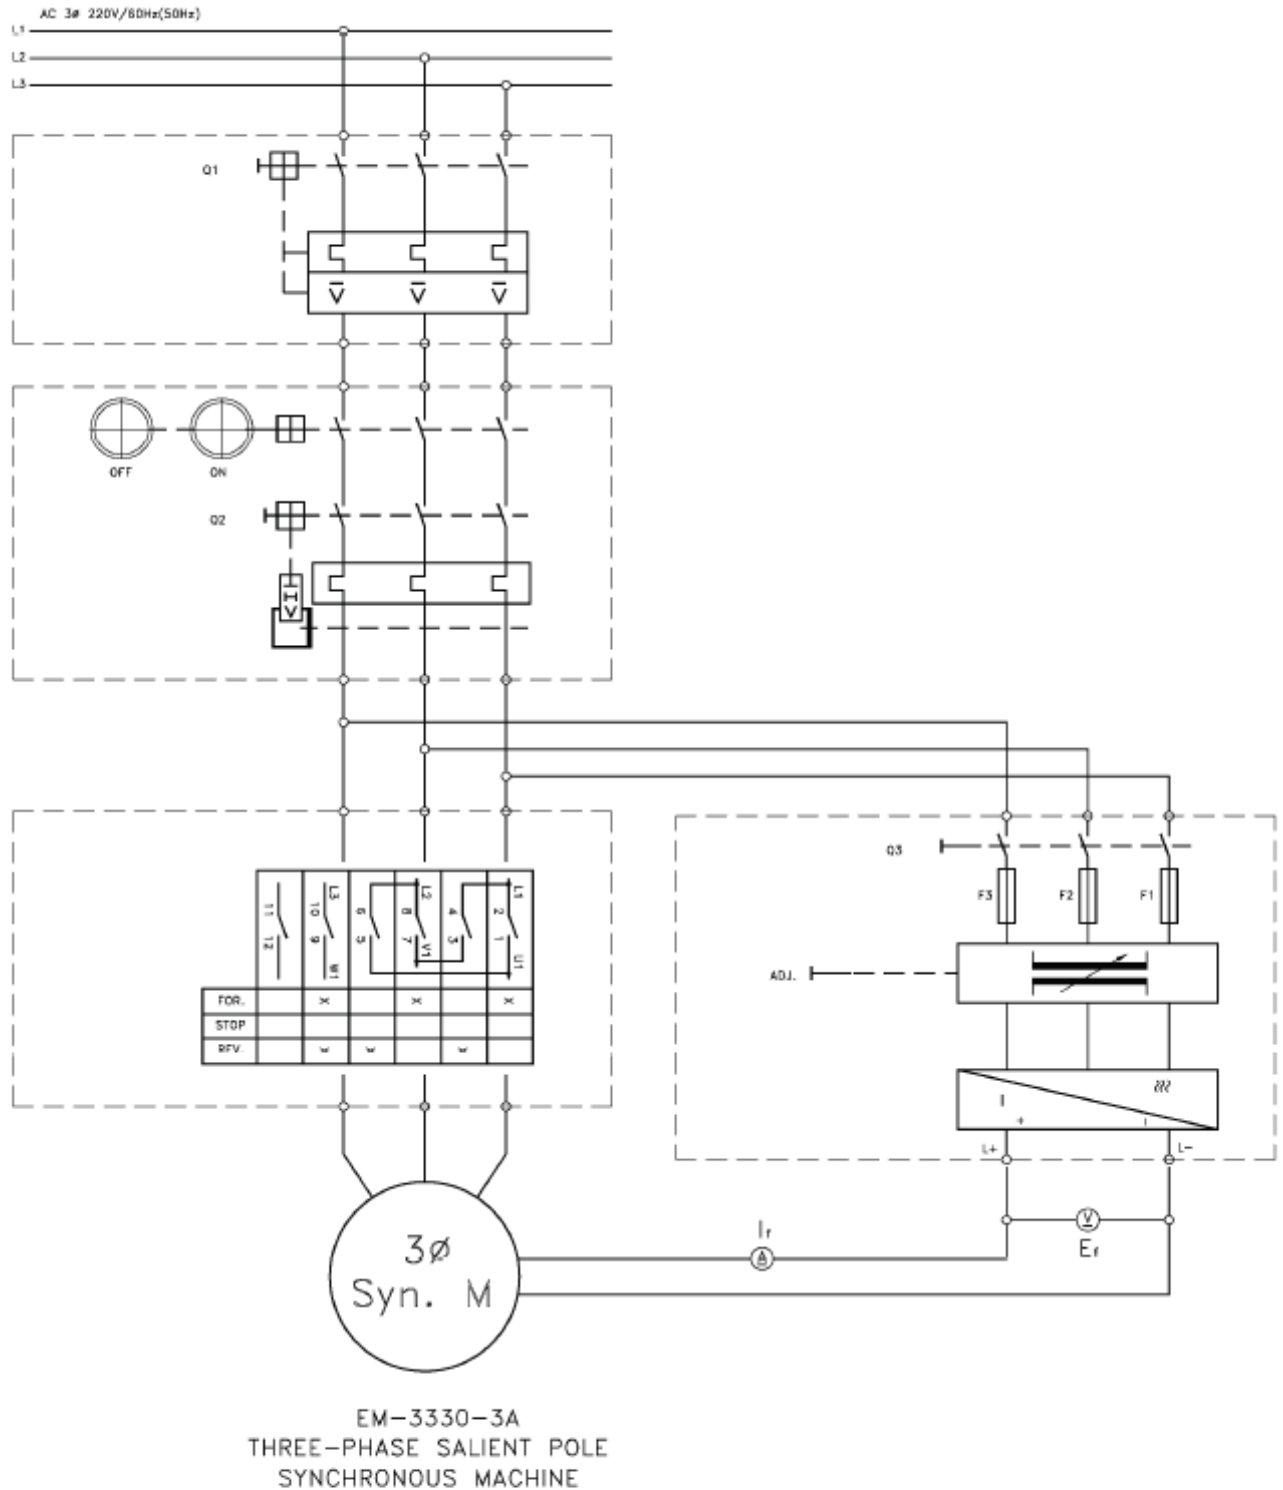

Fig. 14-1-1 Circuit diagram for rotation direction control
1. Place the Three-phase Salient Pole Synchronous Machine on the Laboratory Table. Install the required Modules in the Experimental Frame. Construct the circuit in accordance with the circuit diagram in Fig. 14-1-1 and the connection diagram in Fig. 14-1-2. Have the instructor check your completed circuit.